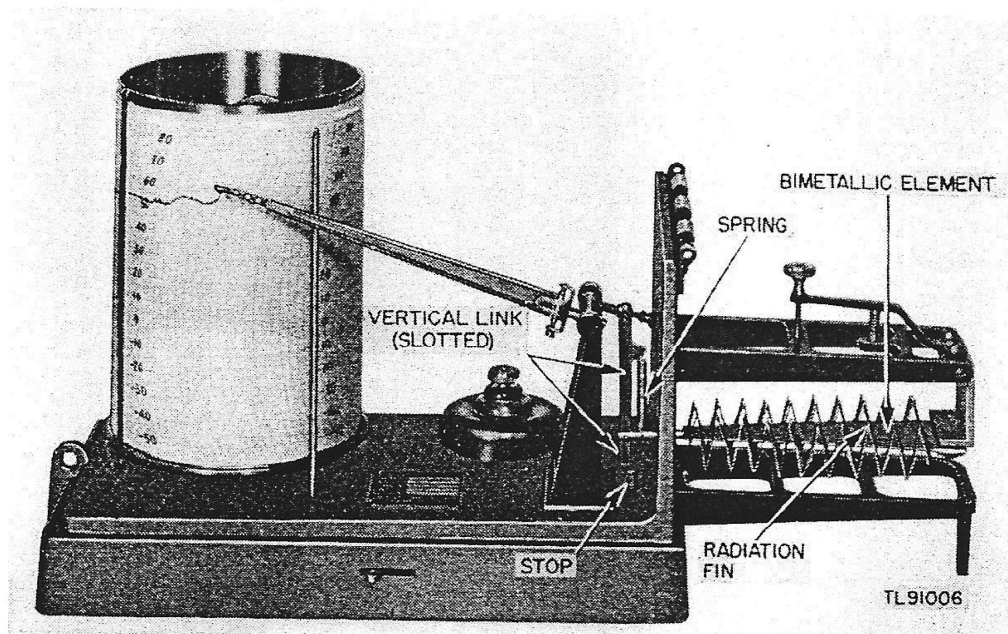

Figure 6. *Thermograph ML-277*, case removed.
(2) *Thermograph ML-277* (fig. 6). The temperature element of Thermograph ML-277 is a tapered bimetallic strip composed of invar and brass welded together. One end of the temperature element is fixed to the rigid thermo-element bracket, while the other end is connected through a system of linkages to the pen arm. A radiation fin is attached to each side of the temperature element. The bimetallic strip is mounted outside the case on a bracket support to provide for maximum ventilation and best exposure.
(b) *Stop.* The stop (fig. 6) prevents undue strain on the link and lever system when the temperature element, at any adjustment within its range (par. 4c (2)), is exposed to temperatures of 140° F. or less. Since the stop limits the extent of the downward motion of the vertical link, the pen never leaves the cylinder.
(2) *Calibrating mechanism.* The calibrating mechanism of the Thermograph ML-277 is identical with that of Thermograph ML-77 (see a (2) above).